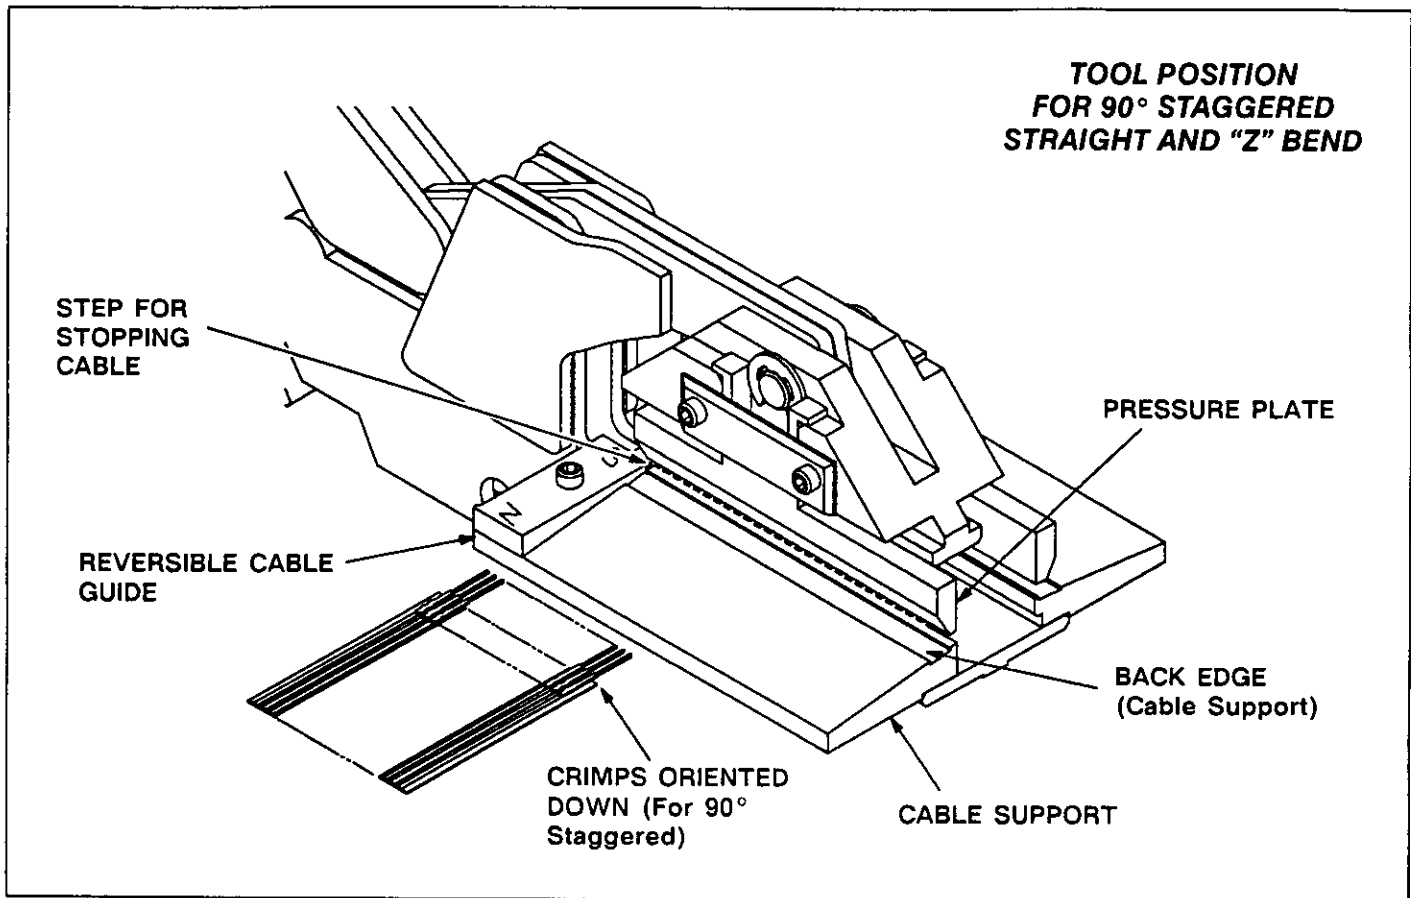

Fig. 6
A. .050 Centerline Cable, 90° Staggered Straight and "Z" Bend (Figure 6)